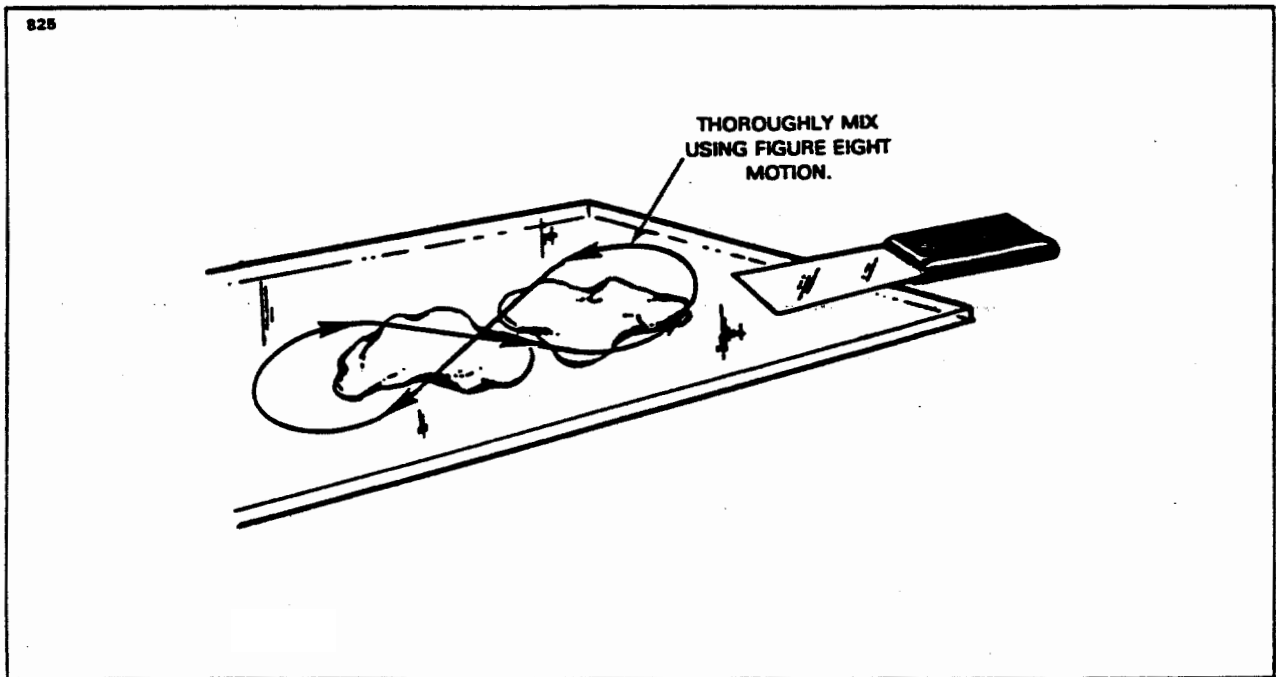

Figure 4-10. Mixing of Epoxy Patching Compound
6. The patching compound is mixed in equal portions on a hard flat surface using a figure eight motion. The damaged area is cleaned with perchlorethylene or VM&P Naptha prior to applying the compound. (Refer to Figure 4-10.)